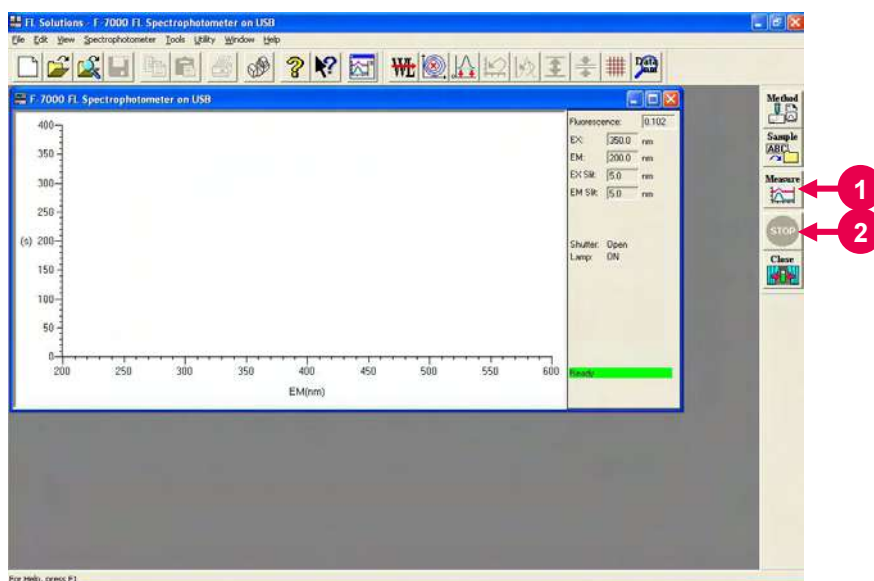

Fig. 6-9 Monitor Window
- (1) Make sure an analysis method has been set and a sample has been defined. (Refer to “6.2 Creating an Analysis Method” and “6.3 Defining Your Samples.”)
- (2) Set a sample in the sample compartment and click the  button on the Measurement toolbar to start measurement. (See ① in Fig. 6-9.)
- (3) For halting the measurement midway, click the  (stop) button on the toolbar. (See ② in Fig. 6-9.)